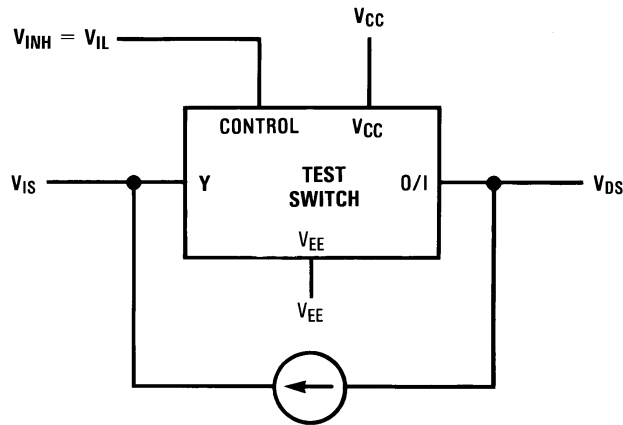

Figure 1. "ON" Resistance
| R ON | Maximum "ON" Resistance (4)              | V INH = V IL , I S = 2.0mA, V IS = V CC to V EE (Fig. 1)                                | GND  | 4.5V            | 40   | 160                   | 200                          | Ω     |    |
|                 |   | V INH = V IL , I S = 2.0mA, V IS = V CC or V EE (Fig. 1)                                | GND  | 2.0V            | 100  | 230                   | 280                          | Ω     |    |